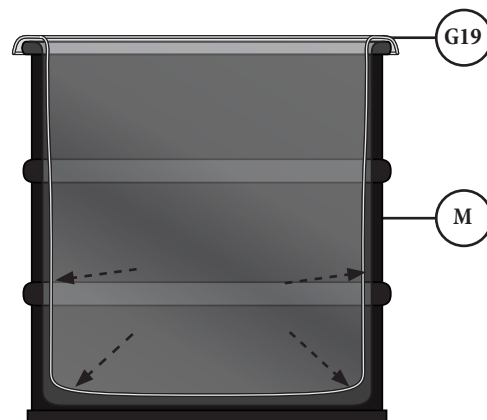

FIG. 25
Place a Liner Bag (G19) inside the Drum (L). Take care to ensure that the Liner Bag (G18) is fully expanded to the inside of the drum and so that the upper edge of the Liner Bag (G18) is folded out and over the lip of the drum [FIG. 25].